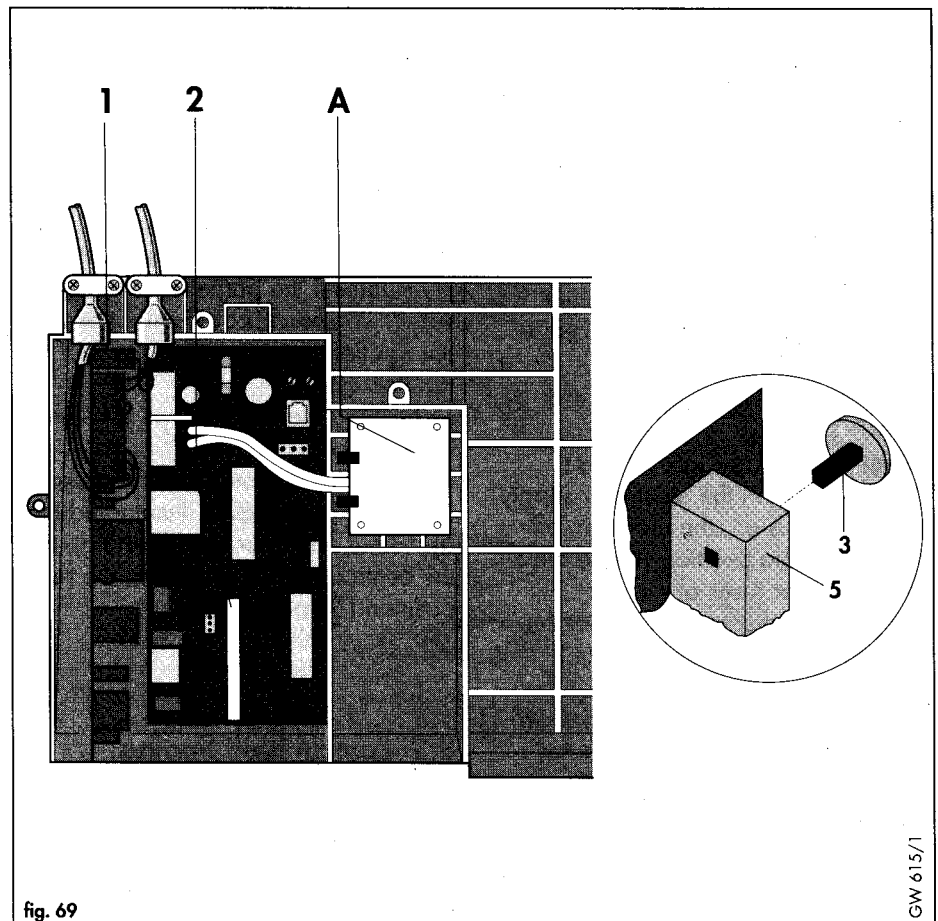

fig. 69
- Unplug ribbon cable from control board (2, fig. 69).
- Unplug all leads from the both boards (1, fig. 69).
**Note:** When refitting the control board, ensure that the user control spindles (3, fig. 69) are aligned with the potentiometer and control switch holes (5, fig. 69) and that the locating rib of the potentiometer/switch correctly engages in the groove of the control knob spindle. Also ensure that when refitting the main switchboard the on/off control knob spindle (3, fig. 69) engages correctly into the on/off switch (5, fig. 69) mounted on the board.